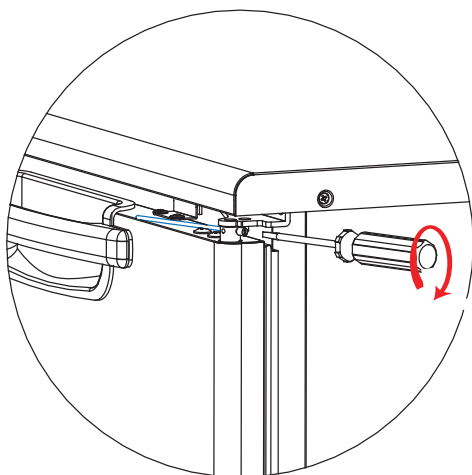

Fig 9-50
5. Turn and drive the tension pin into the next step hole. (Fig 9-50)